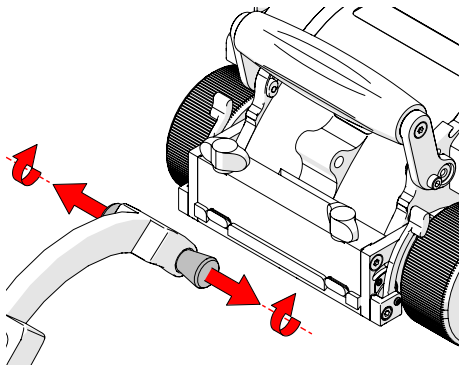

Fig. 67 - Pull pins and twist
1. Pull the pins and twist a quarter turn latching the pins in a retracted state (Fig. 67).